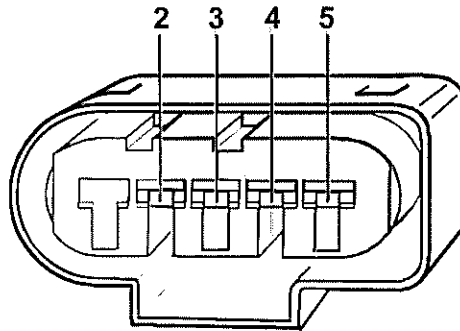

Fig 27 Connector for air mass meter (G70)
68.15 Using a multi-meter measure resistance between the following contacts (see Fig 27) of the connector: